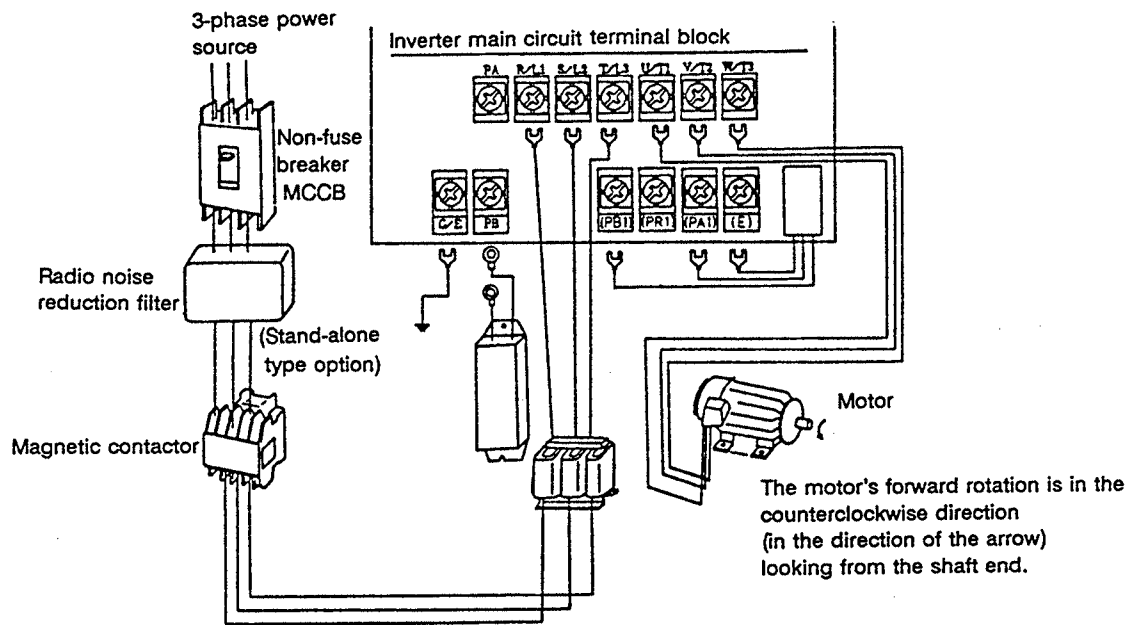

Fig. 5.1 Main circuit wiring
5.1 Connection to Main Circuit (Refer to page 11, Fig. 5.1.)
The main circuit wiring is shown in Fig. 5.1.